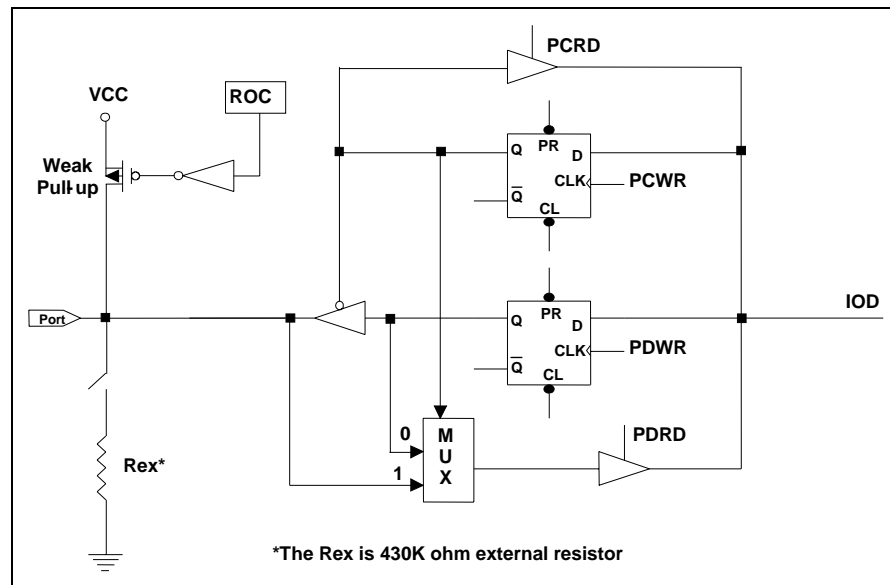

Figure 4-6b I/O Port with R-Option (P70, P71) Circuit
**Bit 3 (ROC):** ROC is used for the R-option. Setting ROC to "1" enables the status of the R-option pins (P70, P71) and allows the controller to read. Clearing ROC disables the R-option function. Otherwise, the R-option function is introduced. You must connect the P71 pin and/or P70 pin to VSS with a 430K $\Omega$  external resistor (Rex). If Rex is connected /disconnected to VDD, the status of P70 (P71) will be read as "0"/"1" (refer to Figure 4-6b of Section 4.4). The ROC bit is readable and writable.